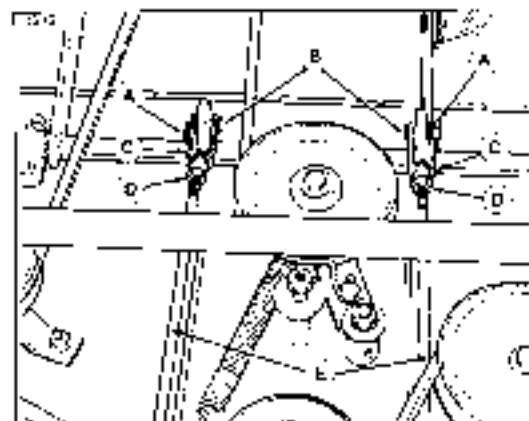

Figure 47. Front-to-Back Leveling
4. Turn the blades front to back. Measure the distance from the ground to the front tip of the center blade, and from the ground to the tips of the leading and trailing blades. Measurements should be equal. For adjustment, refer to figure 47.